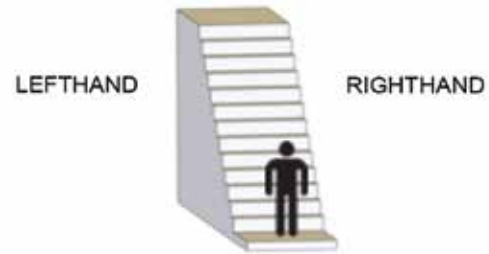

Figure 10-1
1. Determine if the lift will be installed on the right or left side of the staircase. [Figure 10-1]